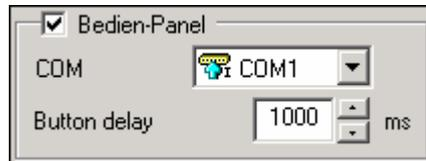

Fig. 71 *CCTV keyboard* group field on the *System* tab
2. Mark the checkbox **CCTV keyboard** (see “Fig. 71”, *page 85*).